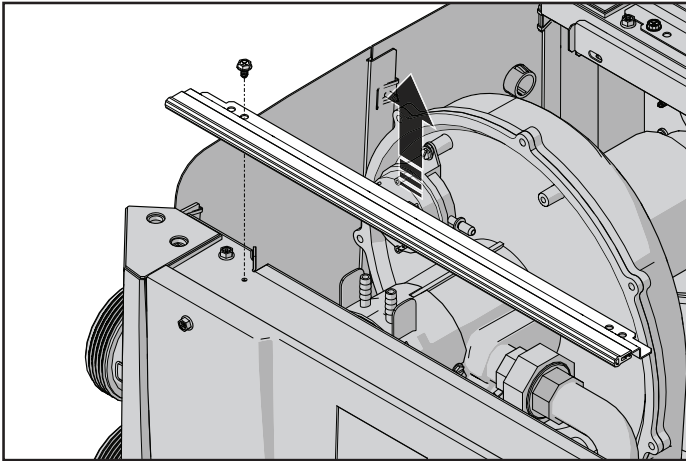

Figure 5. Remove Gasket Retainer Bracket
5. Remove one screw to take off the gasket retainer bracket (Figure 5).